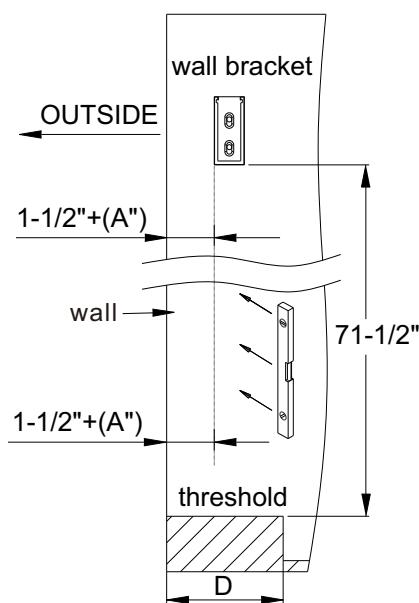
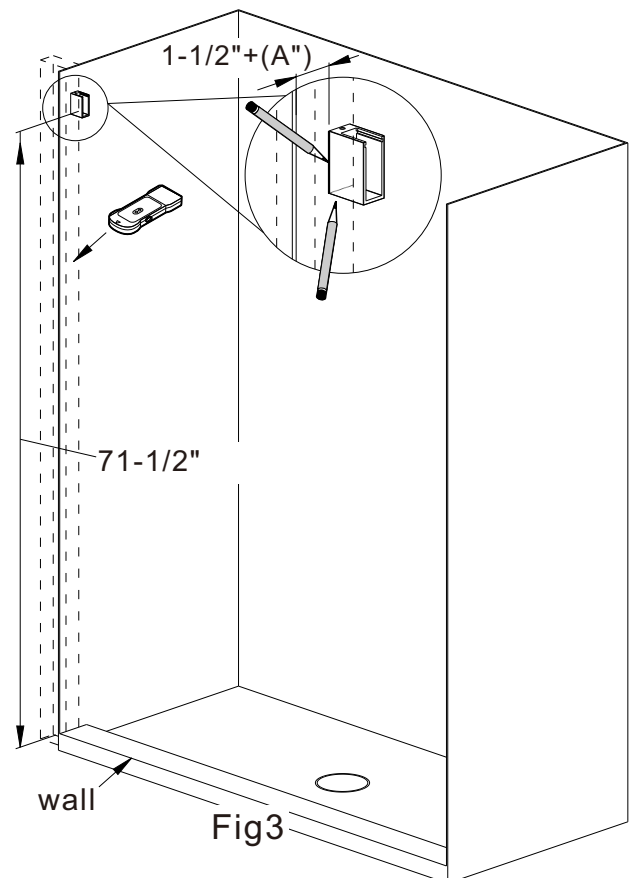

Fig2
Fig3
- This model requires a minimum 2-3/4" (70mm) of flat level threshold space for installation. 4-1/8" (105mm) of flat level threshold space is better. (Dimension "D" of Fig 2.)
- This shower door must be installed into a stud. Minimum threshold space is required. **IMPORTANT:** Using a stud finder, ensure that the wall on both side of the enclosure has a stud in the location shown. A stud in this location must be identified to support the support bar in order to proceed with the installation. If you do not have a stud in this area shown, find a qualified person for advise. (Fig 2)
3. Measure up in 71-1/2" (1816mm) from the ground to the bottom corner of the **Wall Bracket Assembly [13A]** and draw a horizontal line. Measure in 1-1/2" (38mm) min from the outside of the **Wall** to the profile of the **Wall Bracket Assembly [13A]** and draw a vertical line. Or measure in 1-1/2" + (A") if you want to install the shower door behind the outside of the wall (Fig 2, Fig 3).